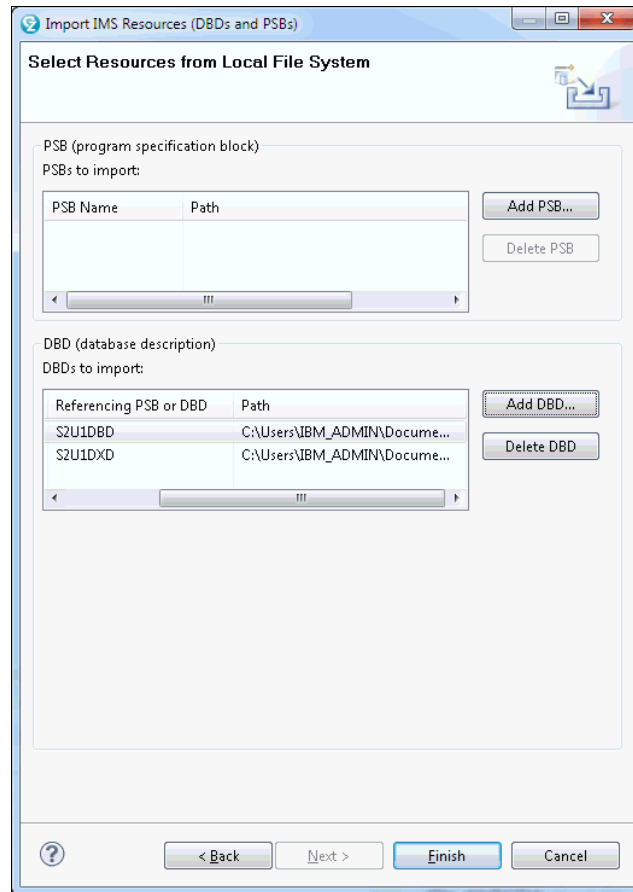

Figure 8-25 Keep selecting more files until you are done
7. To add PSBs to this import, click **Add PSB**, as shown in Figure 8-25.